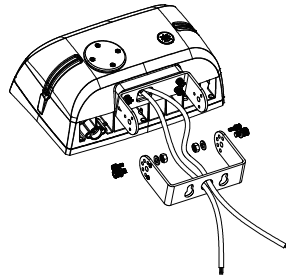

Figure 2-2
- Pass the cable through Knuckle Bracket B (Figure 2-2).
- Pass the cable through Trunnion Bracket B (Figure 2-2).